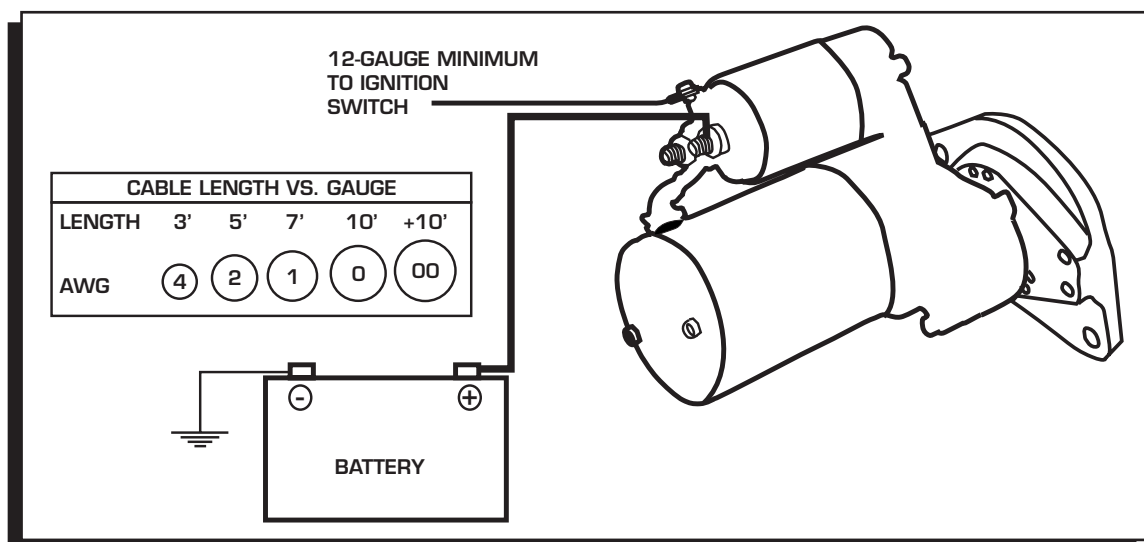
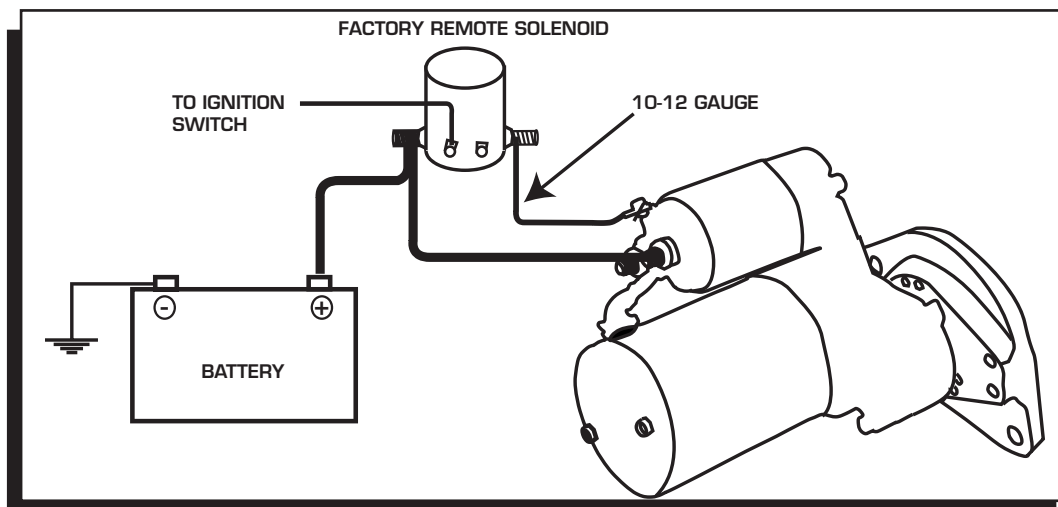

Figure 4 Wiring the DynaForce High Speed Starter.
Figure 5 Wiring to Incorporate an External Solenoid.
5. The switch wire that connects to the solenoid should be at least 12-gauge (Figure 4). For alternative wiring to incorporate the factory remote solenoid, See Figure 5.
6. Attach the battery cable. The gauge of the battery cable depends on its length. Using the proper gauge wire is important to the operation of the starter. Both the positive and ground wires must be able to meet the demands of the starter. The chart in Figure 5 shows the recommended sizes. Be sure to route the wire away from the exhaust and moving parts of the engine.